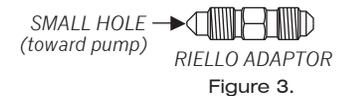

Figure 3.
5. Remove the bleeder fitting from the pressure port and install the Riello adaptor with the small hole toward the pump. See Figure 3. Tighten the Riello adaptor using a small wrench. Do not overtighten.